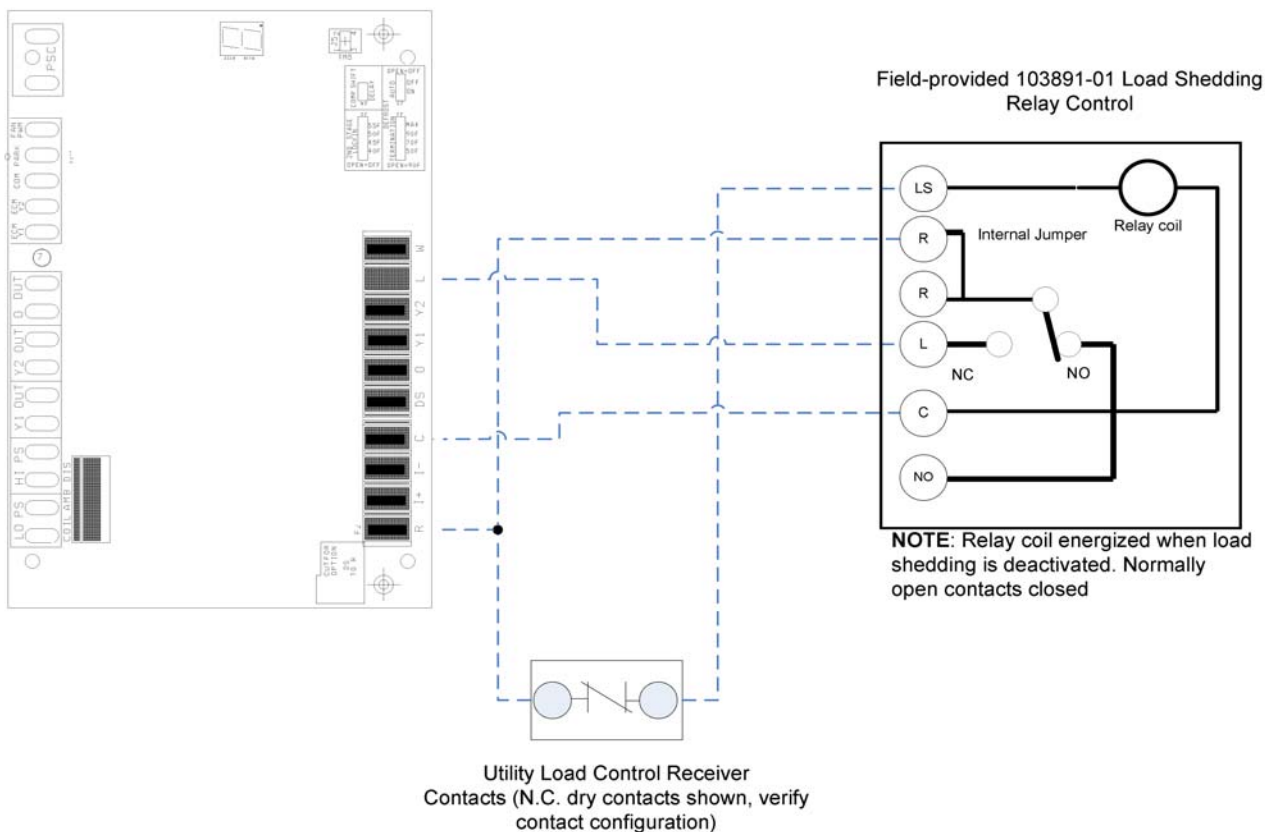

Figure 2. Outdoor iComfort® Control 103369-03 through -04
3. Connect field-provided wires to terminals on load shedding relay control as illustrated in figures 2 and 3.